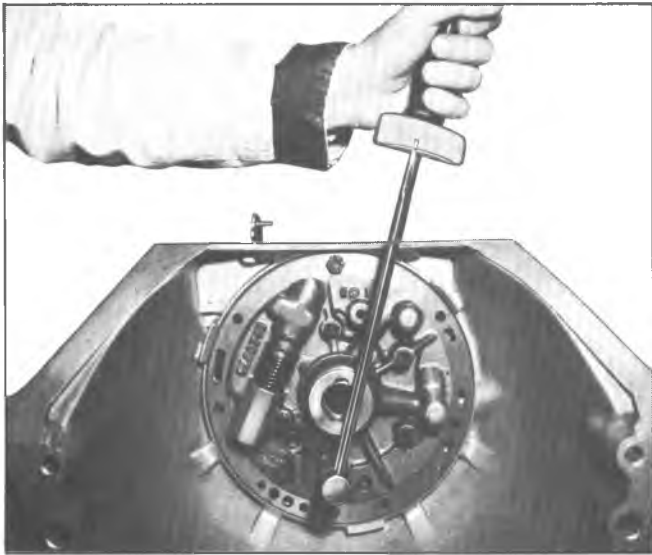

Fig. 66T--Installing Pump Cover to Pump Body
11. To align the pump body and cover, place the pump assembly, less rubber seal ring, upside down into the pump bore of the case (fig. 66T).